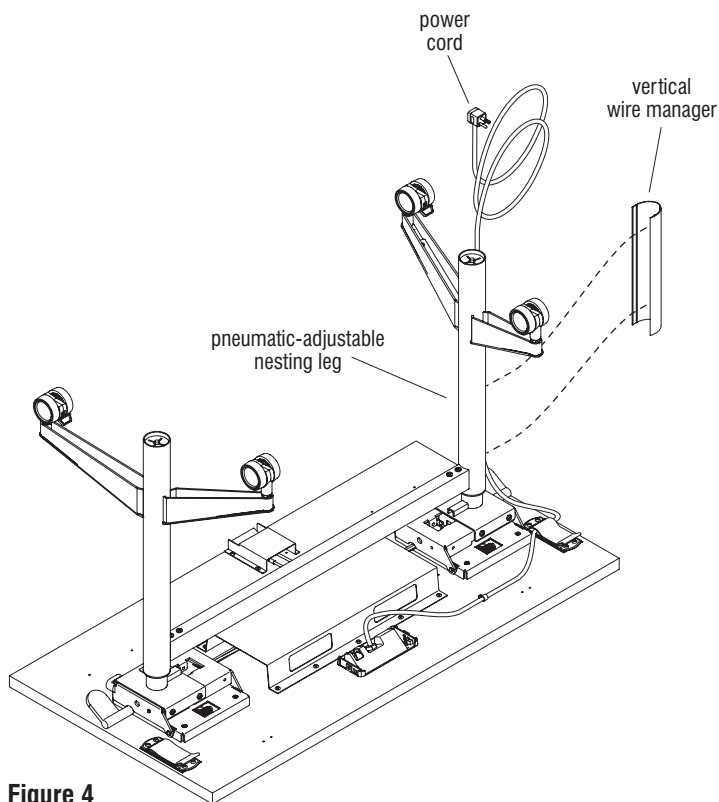

Figure 4
1. Route the power cord along the leg, then snap the wire manager to the post with the cord in between. Vertical wire manager easily snaps on and off the leg, to add or reconfigure cords (Figure 4).